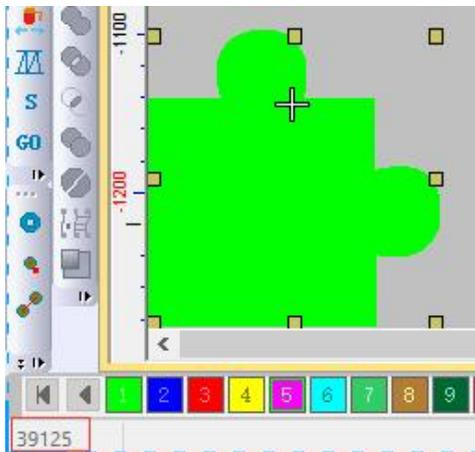

Figure 1
-  Duplicate point deletion Action: 1. Select the object that you want to filter the short stitch in the workspace (Figure 1).